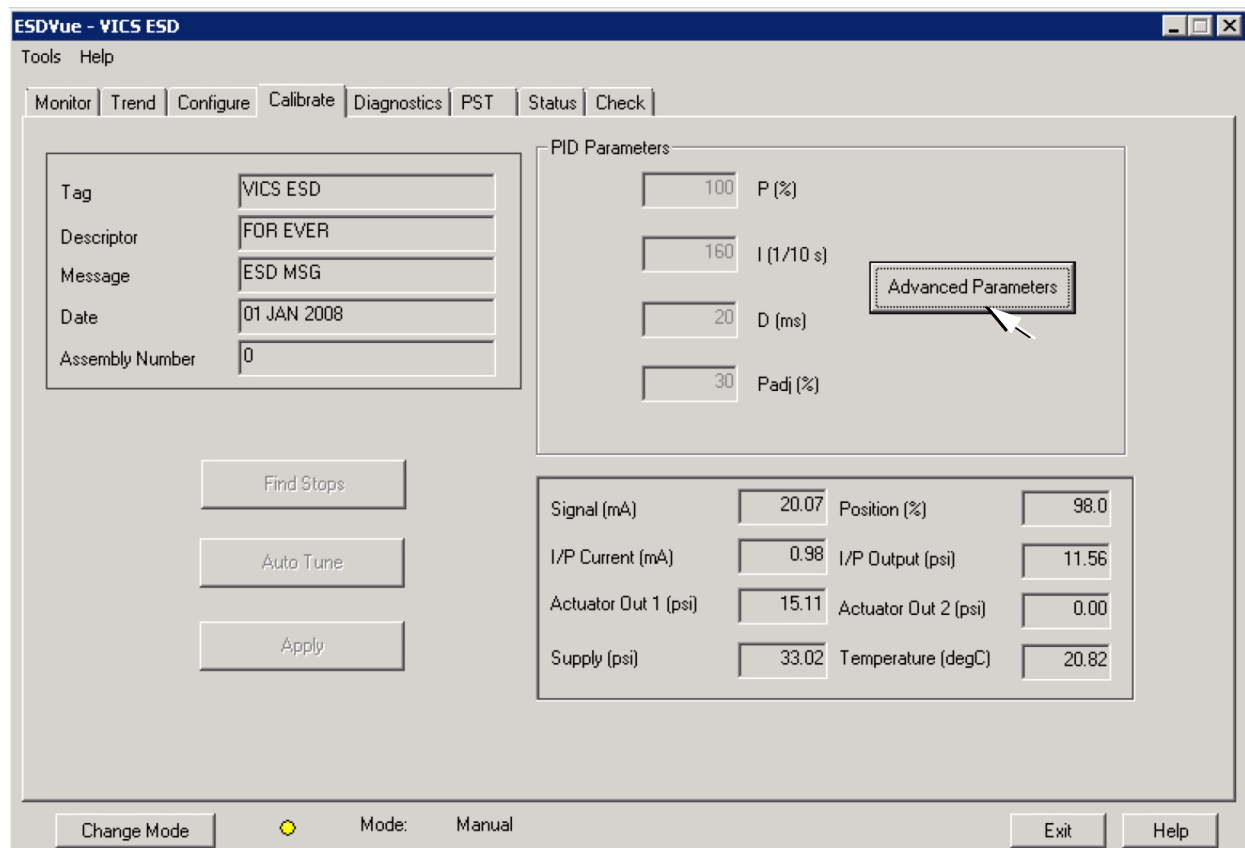

Figure 130 - Starting Advanced Parameters
1. Click **Advanced Parameters** (Figure 130).